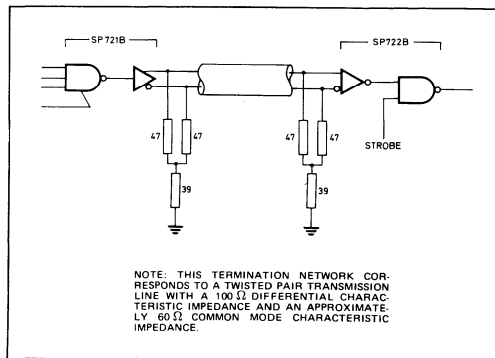

Fig.2 Typical application.
1. This result holds for the source current in the range 1 to 10mA (pin 2) and this current is normally determined by a resistor from pin 2 to ground (see fig. 2).